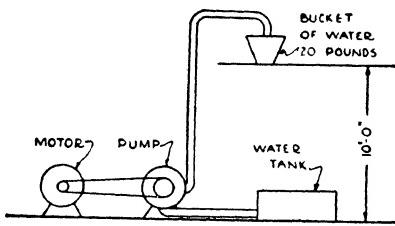
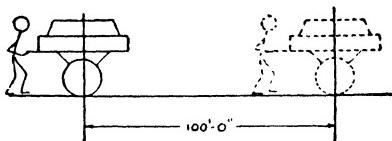

Fig. 3. Pumping Water by Means of a Motor Driven Pump
Fig. 4. Man Pushing a Cart in Which Resistance to Motion Is Twenty Pounds
Suppose, instead of lifting the water by manual effort, it is forced up to the bucket by a pump driven by a motor, as shown in Fig. 3. In order to fill the bucket, which is placed upon the platform 10 feet above the level of the water tank, 20 pounds of
Fig. 4 shows a man pushing a cart. To keep the cart moving at a constant speed, it is necessary that the man apply a force of 20 pounds to overcome the friction or resistance to motion. Therefore, when he has pushed the cart 100 feet, he has performed an amount of work equal to force times distance, or
**Power** means the speed or rate of doing work. The faster **work** is done, the greater the **power** required to do it. Fig. 3 shows a motor-driven pump raising water from a tank to a platform 10 feet above it. To deliver 20 pounds of water, it will take 200 foot pounds of work. In order to deliver this water at the rate of 20 pounds per second to a height of 10 feet, the power required is  $\frac{20 \times 10}{1} = 200$  foot pounds per second, or  $200 \times 60 = 12,000$  foot pounds per minute. First, we found the **power** required per second to lift 20 pounds of water in a second by dividing the **work** by **one second**. Then we found the foot pounds per minute by multiplying 200 by the number of seconds in a minute. Suppose the man shown in Fig. 4 pushes the cart 100 feet in six seconds. The power required is **work** done divided by the time, or  $\frac{20 \times 100}{6} = 333\frac{1}{3}$  foot pounds per second.
The horsepower required to push the cart, Fig. 4, a distance of 100 feet in 6 seconds, that is, to do 20,000 (see explanation on page 49) foot pounds work per minute, is
In the problem illustrated by Fig. 3, it was stated that 20 pounds of water was being delivered to the platform in one second. Thus we speak of the water as flowing at the rate of 20 pounds per second. In much the same way we speak of electricity as flowing along a wire at the rate of so many **coulombs** per second. The coulomb is the unit of quantity of electricity, just as the gallon is the unit of quantity of water. We have to consider the rate of flow of electricity so often that we have a special name for the unit of rate of flow (one coulomb per second). We call it an **ampere**. Thus 5 amperes means 5 coulombs per second.